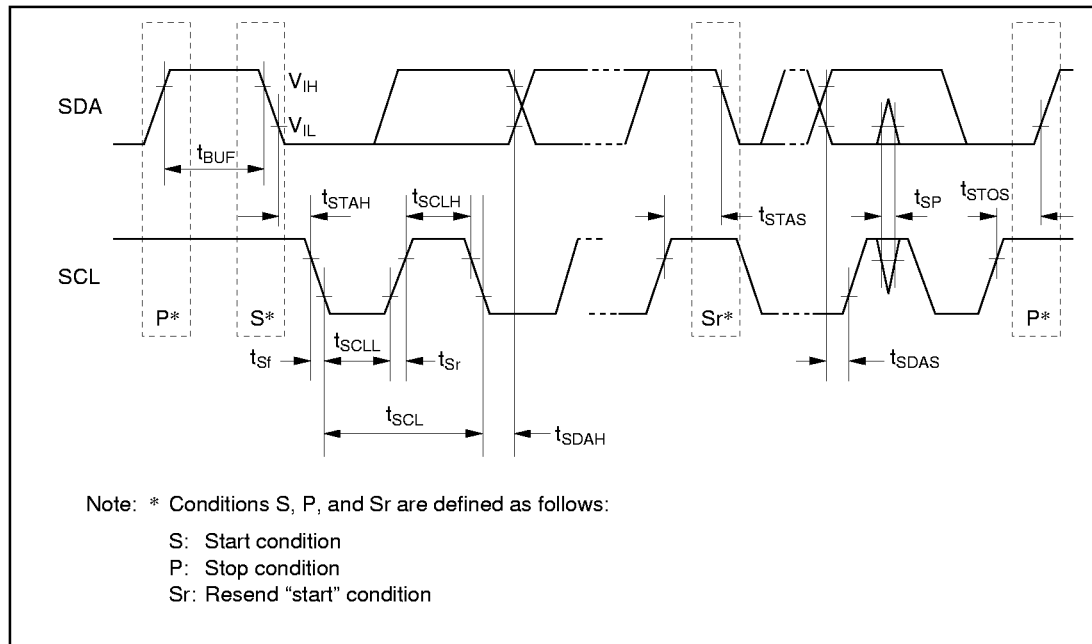

Figure 22-21 I²C Bus Interface I/O Timing
22.3.9 I ² C Bus Timing	Figure 22-21